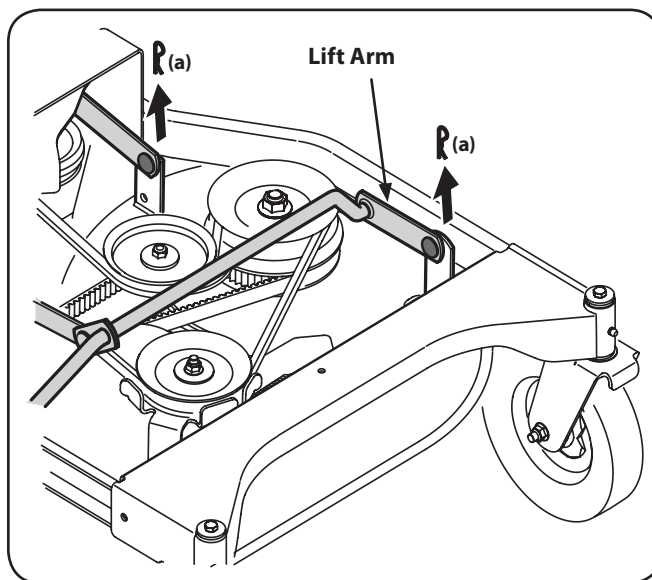

Figure 7-3
7. Looking at the cutting deck from the left side, locate and carefully remove the hairpin clips (a) that secure the deck supports on the rear left side and front left side of the deck. See Figure 7-3.
9. Carefully remove the front deck supports from the deck lift arms. See Figure 7-3.